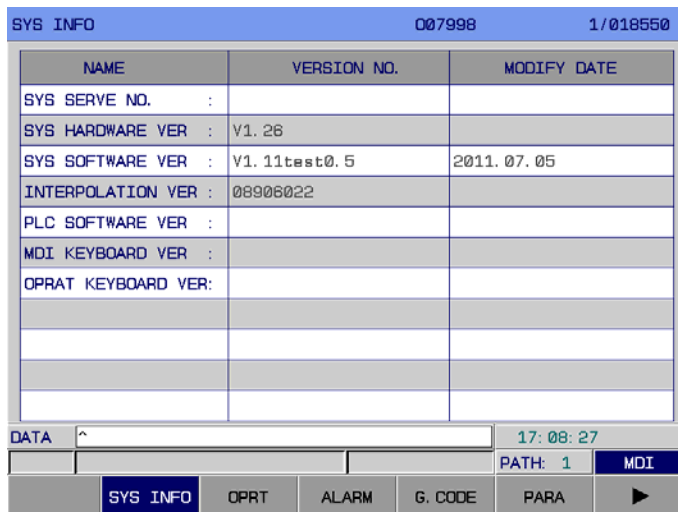

Fig. 3-9-1
Enter the help display page by **HELP**, there are eight display interfaces in this page:【SYSTEM INFORMATION】【OPERATION TABLE】【ALARM TABLE】【G CODE TABLE】【PARAMETER TABLE】【MACRO COMMAND】【**PLC.AD**】【COUNTER】, which can be viewed by its corresponding softkey. The displayed content shows below (Refer to Fig. 3-9-1~3-9-12).
1. System information interface Enter the system information interface by 【SYSTEM INFORMATION】 softkey in <HELP> interface; refer to the Fig. 3-9-1: